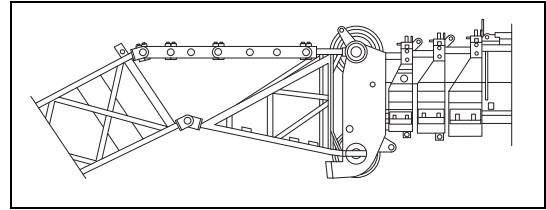

Fig. 4-57
5. Slowly raise the boom until the holes for the higher degree offset position align with the offset links, then install the offset pins and their clips. See Fig. 4-57.